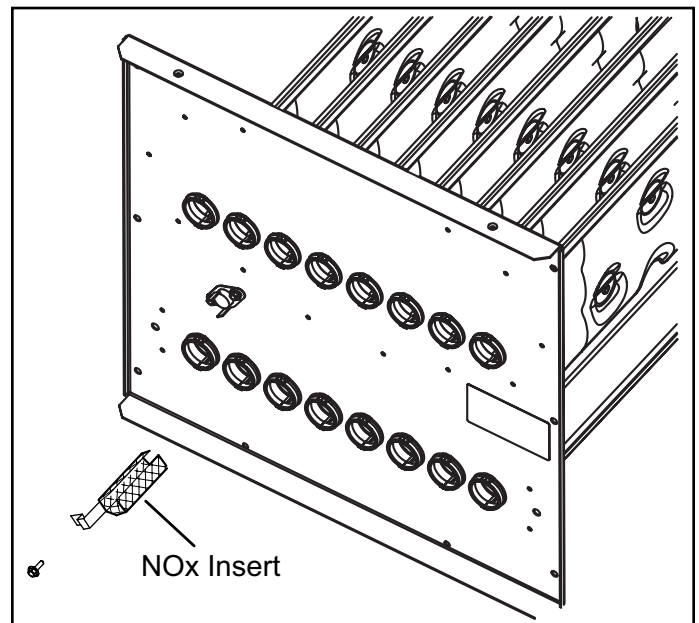

Figure 22. NOx Inserts
- NOx units only - Remove screw securing NOx insert. Remove NOx insert. See Figure 22.